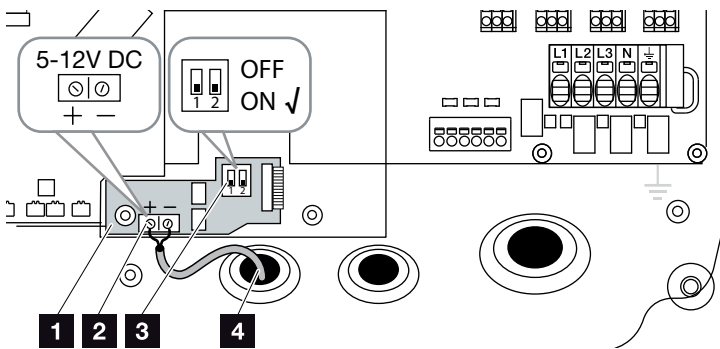

Fig. 26: KOSTAL Smart AC Switch board
- 1.** Guide control cable into inverter and connect to terminal  **Fig. 26, It. 2** of printed circuit board (PCB).
- 3.** Move DIP switch to ON position  **Fig. 26, It. 3**